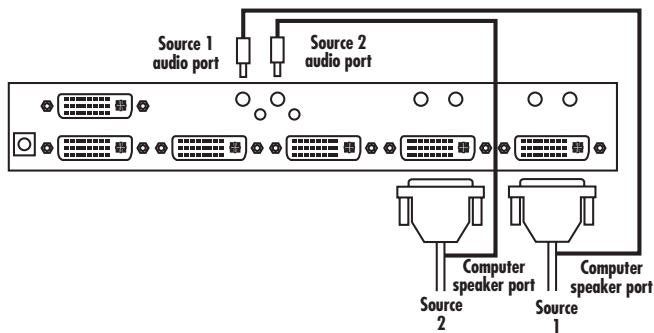

Figure 4-3. Connections for source 2.
3. Repeat Steps 1 and 2 for source 2. See Figure 4-3.